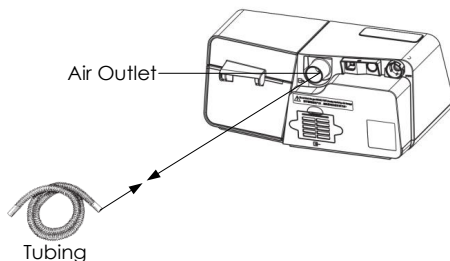

Fig. 12-5
(1) Connect one end of the tubing to the air outlet of the device, as shown in Fig. 12-5.